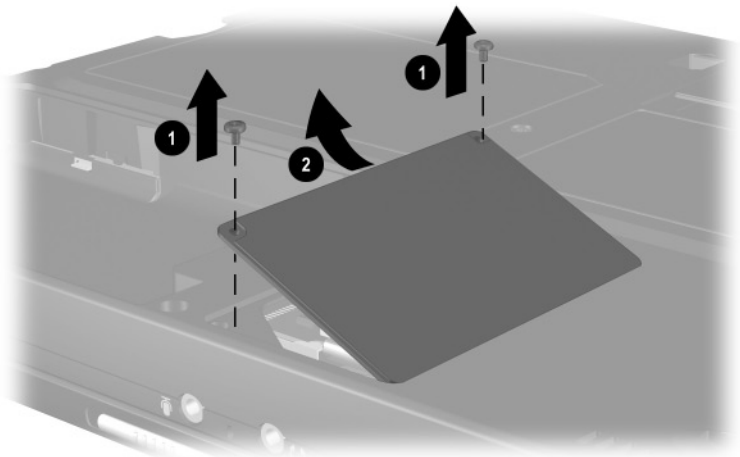

Figure 5-7. Removing the Mini PCI Compartment Cover
3. Remove the two PM2.5 × 5.0 screws ❶ that secure the mini PCI compartment cover to the base enclosure (Figure 5-7).
4. Lift the left edge of the cover and swing it up and to the right ❷.